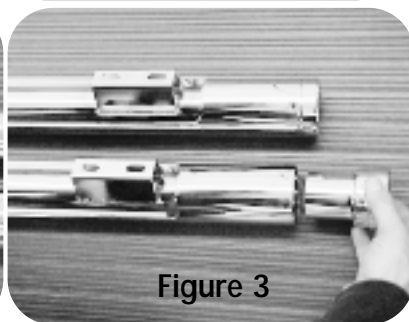

Figure 3
3. Install end caps (if removal was necessary) into tail end of each heat shield engaging head pipe and heat shield. Align mounting hole with end cap hole. Install and tighten 1/4"-20 button head screws. **Note:** Removable thread locking compound is recommended. (Figure 3)